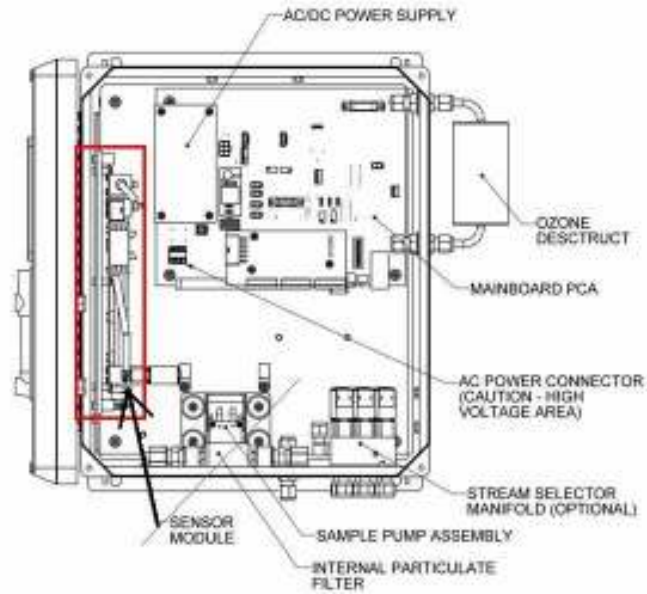

Figure 1.
1. Locate the sensor module located on figure 1.